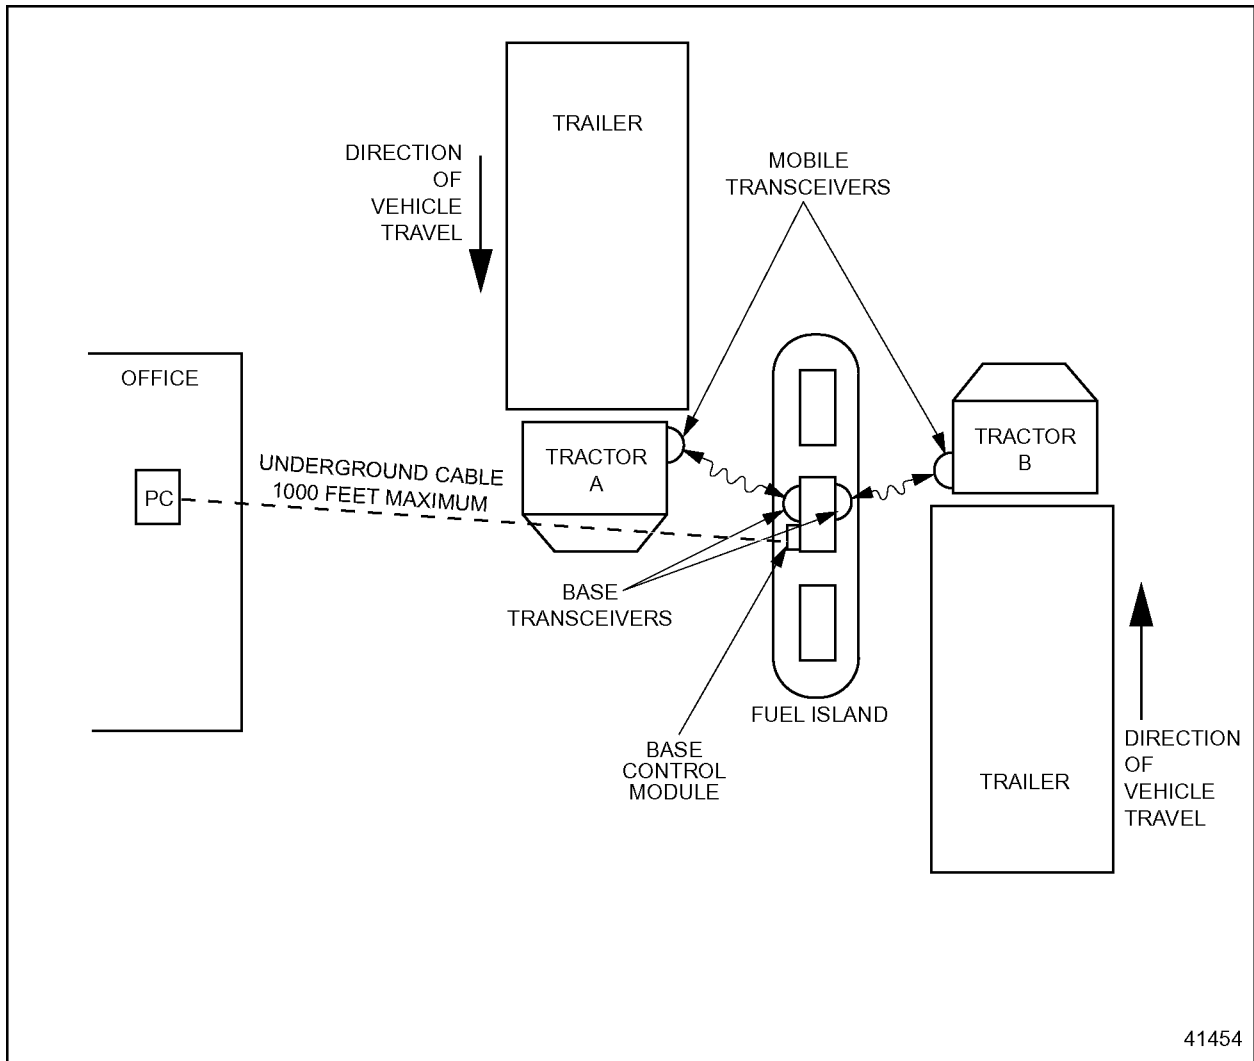

Figure 7. Two Transceivers, One Base Control Module, Multiple Lanes – Example 1
- Two Transceivers, one Control Module covering multiple lanes; only one vehicle is serviced at a time (see Figure 7, Figure 8, and Figure 9).